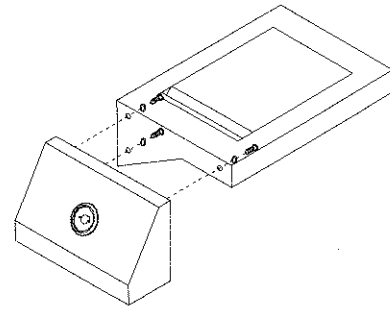

Figure 12
2. Attach side control panel to side burner shelf by using $\frac{1}{4}$ " x 15mm philips head screws. (Fig.12)